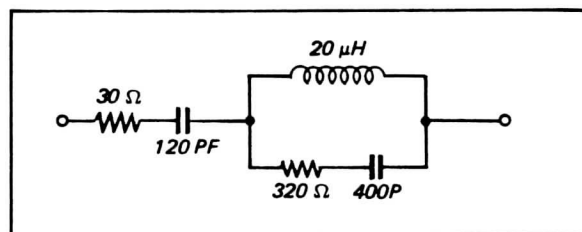

Fig. 3-11. LW dummy antenna
2. LW dummy antenna (See Fig. 3-11.)